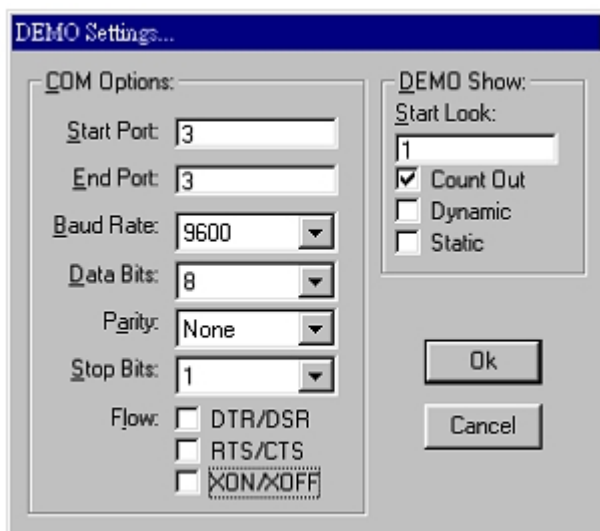

Fig.6
**Step2.**Click the “Setting” to set the RS422 loop counter (See the Figure 6); your system will detect the COM3.